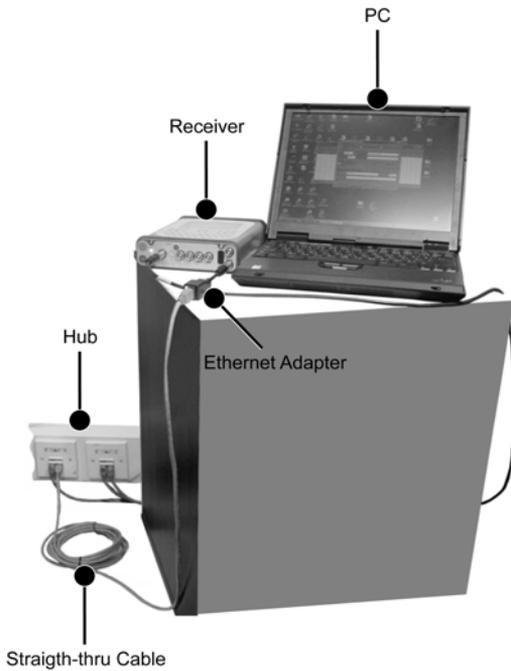

Figure 1-11. Receiver on LAN – Hardware Setup
9. Insert the Ethernet adapter's 7-pin connector into the ETHR port of the receiver. Connect the opposite end of this adapter with the Ethernet straight-through cable (either of its ends can be used). Plug the second end of the straight-through cable into the appropriate Ethernet port on your LAN hub or switch (Figure 1-11 on page 1-25).